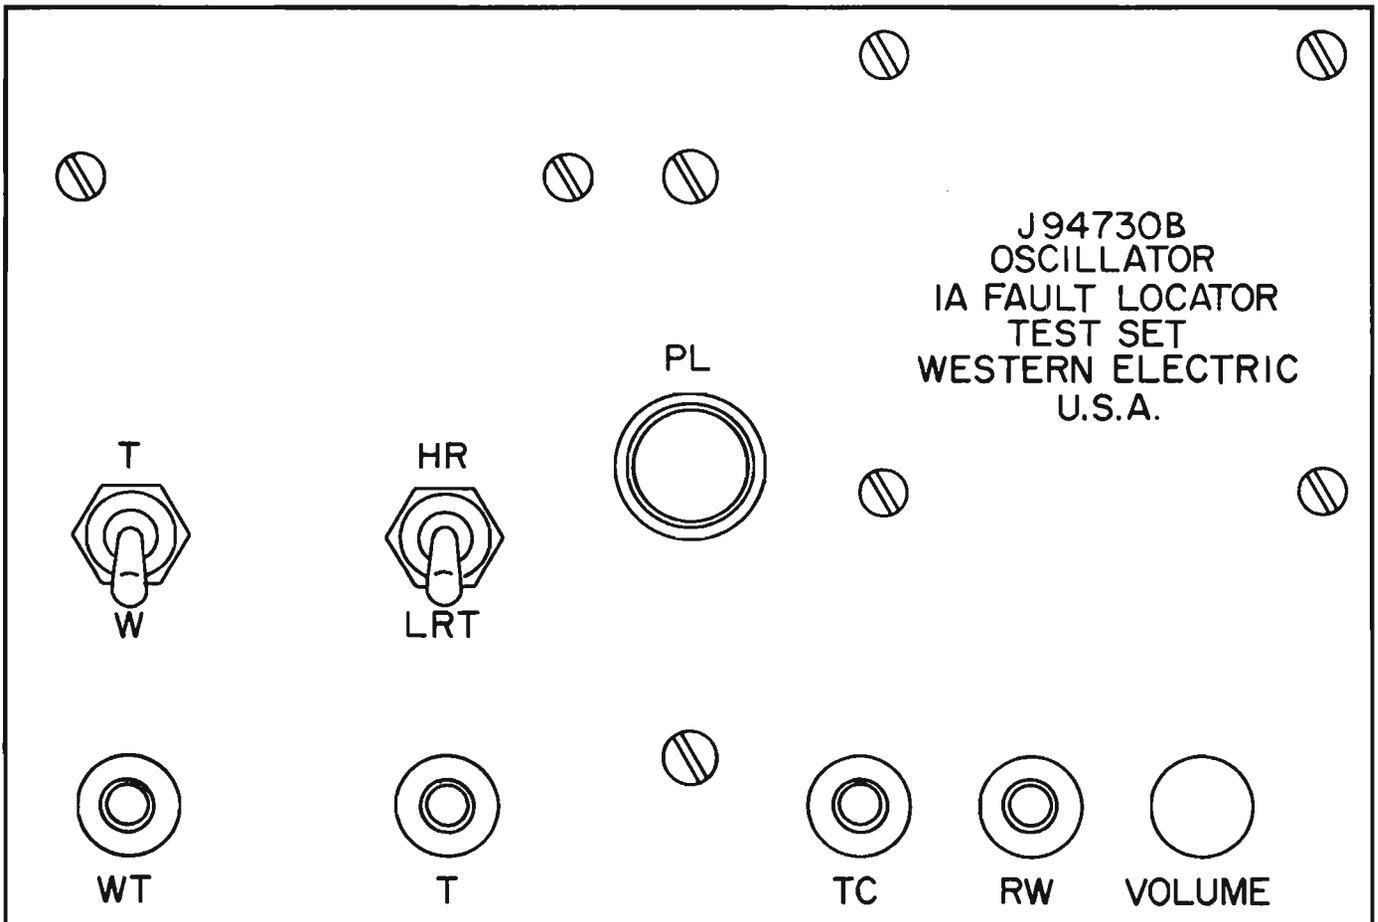

Figure 2. J-94730B Oscillator
2.03 The J-94730B oscillator (Figure 2) is mounted in an aluminum case. Outside dimensions are 7 3/16 in. x 4 1/4 in. x 4 5/8 in. A 3-wire, plug-ended cord supplies commercial power to ground the case and cover of the oscillator. A plug adapter is furnished for 2-wire outlets. Controls and jacks are shown in Figure 2.